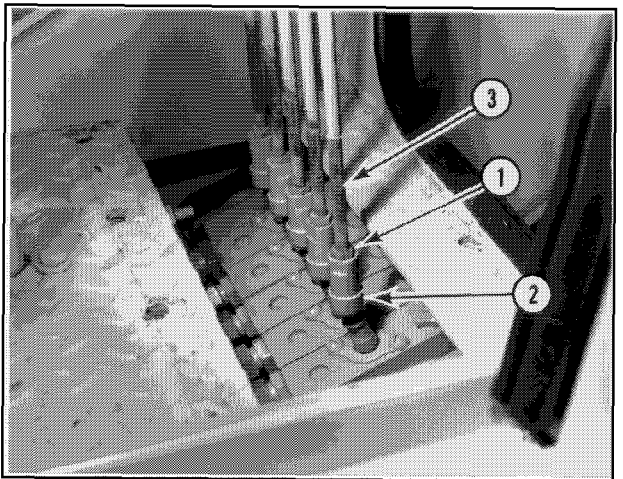

Figure 10
6. Loosen jam nut (1, Figure 10) and unscrew swivel adaptor (2) from control lever rod (3). Repeat procedure for remaining control lever rods.